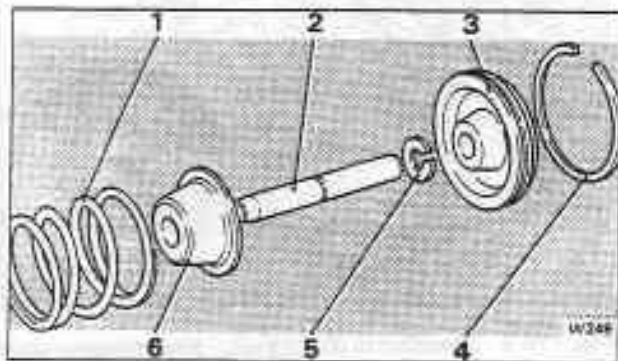
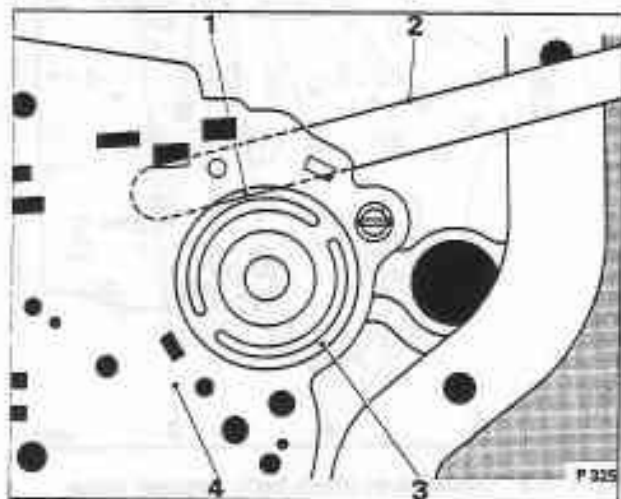

Fig. T15-3 Front servo
Fig. T15-4 Method of temporarily holding front servo piston in position (transmission in car)
8. Lift the front servo piston, retaining ring, pin, retainer, and spring from the transmission case. An exploded view of the front servo is shown in figure T15-3.
If the transmission is in the car, the parts should be assembled as a group (see fig.T15-3) and fitted into the servo bore. A length of straight clean feeler gauge [approximately 0,51 mm (0.020 in)] should be used to hold the servo assembly temporarily in position as shown in figure T15-4. Withdraw the feeler gauge before tightening the control valve body setscrews.